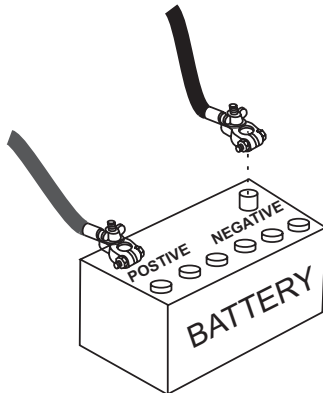

Figure 19. Battery Connections
4. Connect the negative battery cable (BLACK) to the negative post on the battery (Figure 19).